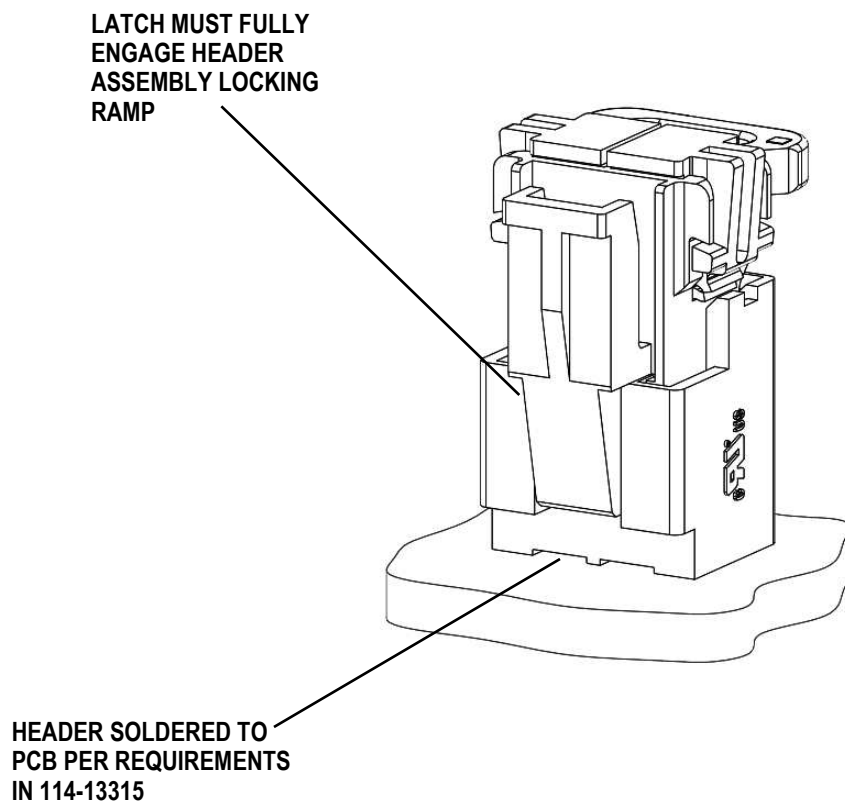

Figure 2: Visual Aid
- Updated Section 4 and Figure 2